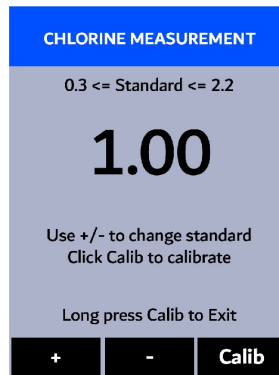
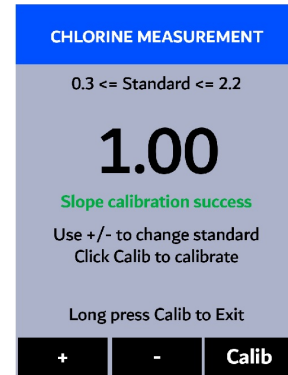

Figure 42.
Figure 43.
11. Use + (  ) and - (  ) to adjust the chlorine concentration to the value of the known chlorine solution (Figure 42).
12. Press **Calib** (OK) to start slope calibration.
13. The message “**Slope calibration success**” will appear on the bottom of the display (Figure 43).
14. Calibration is now complete. Long press **Calib** (OK) to return to the **CHLORINE MEASUREMENT** screen.